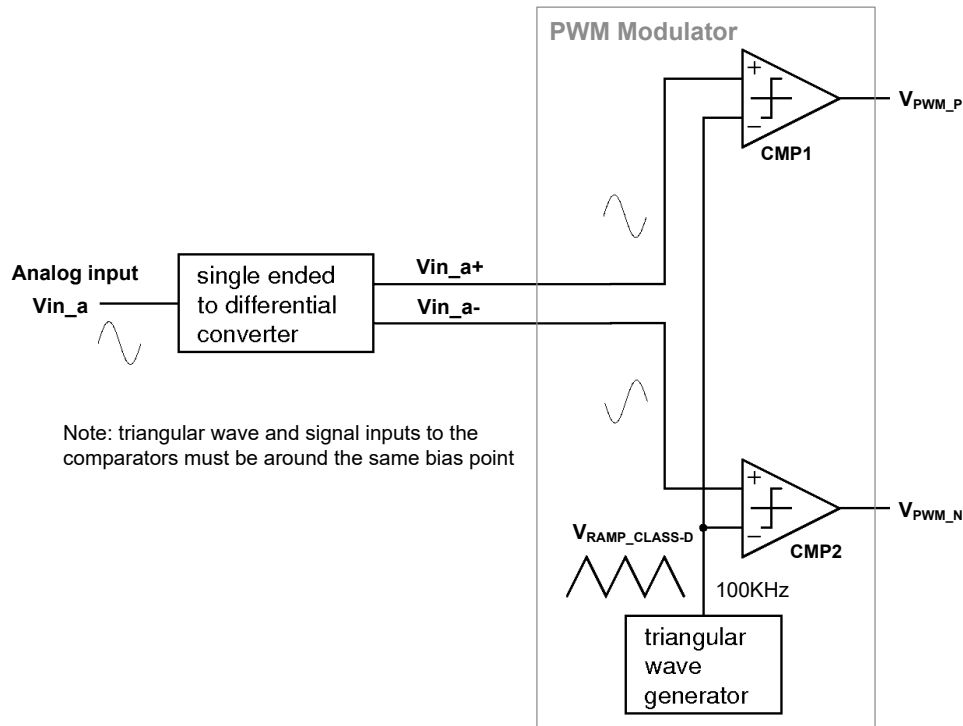
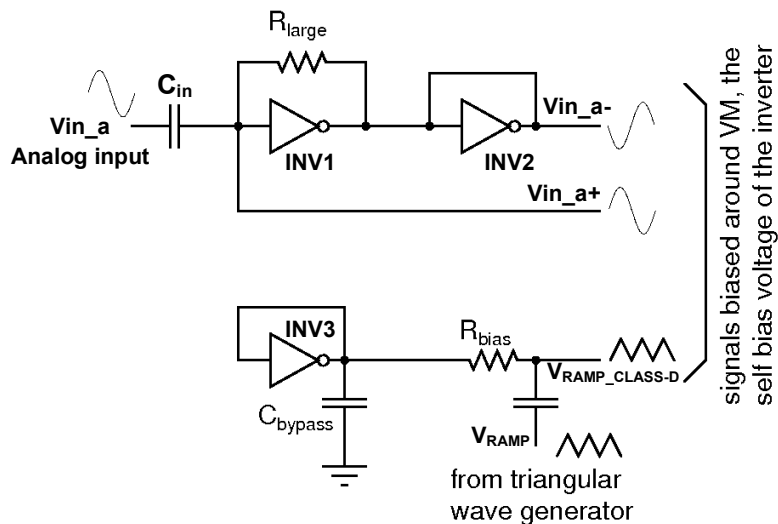
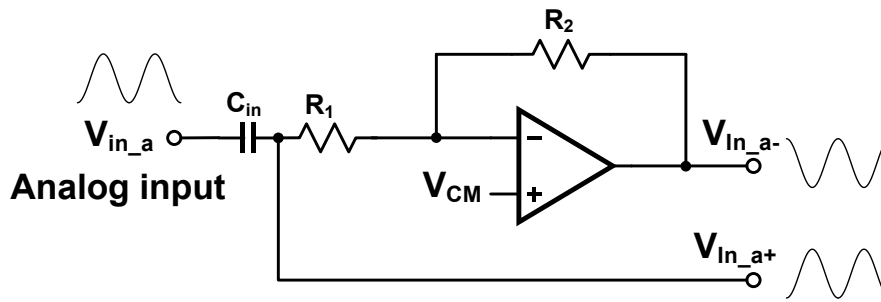

Figure 3-1 Block diagram of single ended-to-differential converter and PWM modulator
Figure 3-2 Circuit diagram of single ended-to-differential converter
Figure 3-3 Circuit diagram of single ended-to-differential converter using op-amp
Single ended-to-differential converter can also be designed using op-amp based inverting amplifier as shown in Figure 3-3.
Input capacitor in both Figure 3-2 and Figure 3-3 should be large enough to make sure input audio signal is not attenuated.
3. Build the complete circuit shown in Figure 3-1 and Figure 3-2 in LTSpice. Verify the functionality in simulation with measurements 1-5.
1. Build the complete circuit shown in Figure 3-1 and Figure 3-2 in LTSpice. Verify the functionality by simulation with measurements 1-5. Use speaker model from Figure 3-6 as load and plot current through inductor. Inductor current should be average of differential output voltage ( $V_{OUT\_P}-V_{OUT\_N}$ ) divided by  $R_L$ .